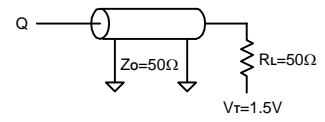

Figure 1. Output Load Equivalent
- Test conditions assume the output loading shown in Figure 1, unless otherwise specified.
Output Load	See Figures 1 and 2